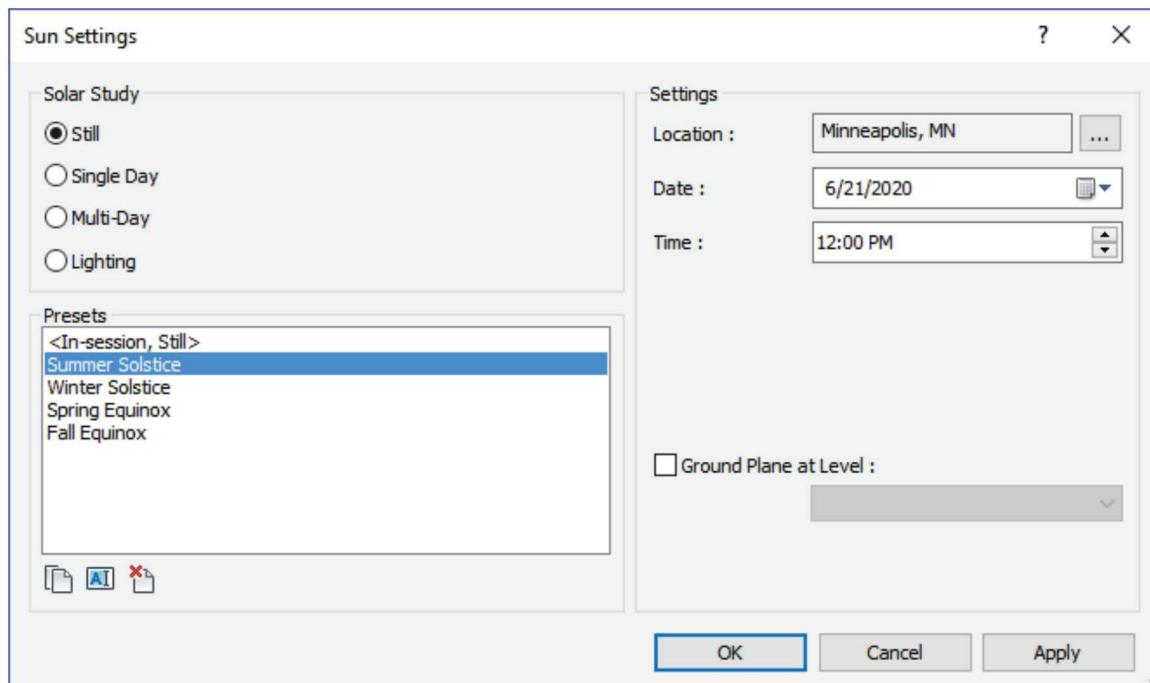

FIGURE 14-2.8 Sun Settings dialog
21. Make the following changes (Figure 14-2.8):
Looking back at Figure 14-2.8, you would click *Duplicate* and provide a name. This name would then be available from the *Sun* drop-down list in the *Render* dialog box.